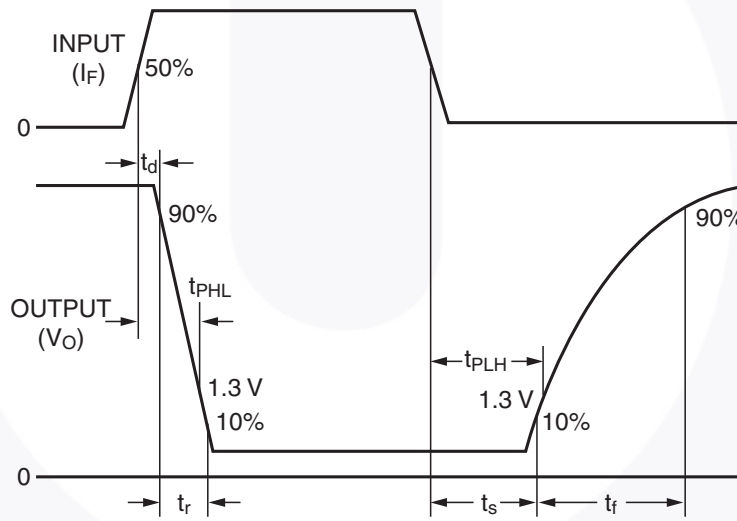

Figure 16. Switching Time Waveforms
- Referring to Figure 16 the TPHL propagation delay is measured from the 50% point of the rising edge of the data input pulse to the 1.3 V point on the falling edge of the output pulse.
- Referring to Figure 16 the TPLH propagation delay is measured from the 50% point of the falling edge of data input pulse to the 1.3 V point on the rising edge of the output pulse.